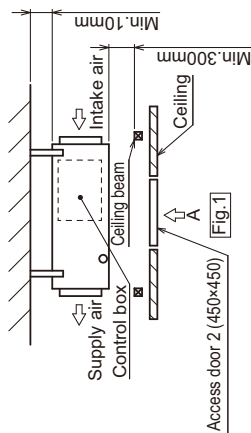

Fig.1 (Viewed from the direction of the arrow A)
- (1) When a space of 300mm or more is available below the unit between the unit and the ceiling. (Fig.1)
(1) When a space of 300mm or more is available below the unit between the unit and the ceiling. (Fig. 1)
- (1) When a space of 300mm or more is available below the unit between the unit and the ceiling. (Fig. 1)